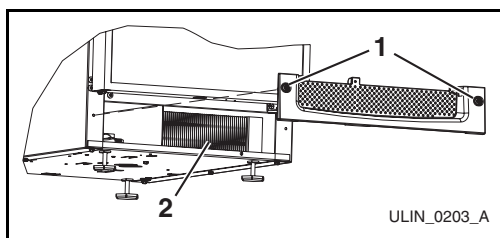

Figure 10
2. Loosen two screws (**Figure 10, 1**) completely.
4. Clean the condenser coil (**Figure 10, 2**) using a soft brush with a "combing" action or vacuum cleaner. Do not touch the condenser coil.